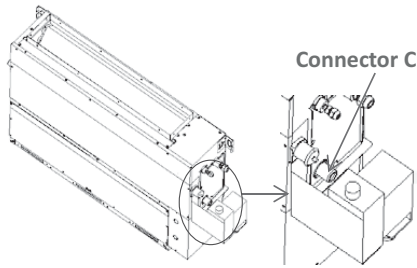

Fig. 35 — Sizes 9K, 12K, 18K with External Condensate Lift Pump
**NOTE:** For size 18K, the external condensate lift pump should be removed (see Fig. 35).